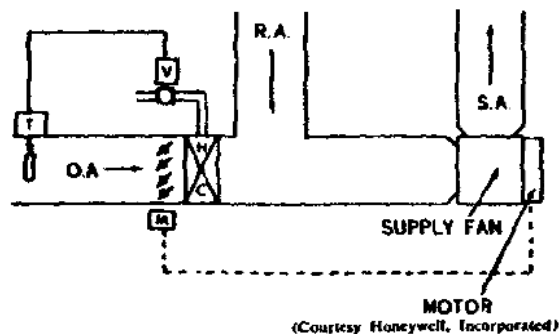

Figure 1. Control of preheat with outdoor air thermostat.
4. *Thermostatically controlled water or steam valve.* Figure 1 shows a system that uses a narrow range temperature controller. The temperature of the incoming air is sensed by the thermostat feeler bulb. The thermostat is calibrated to modulate the valve open when the temperature is 35° F.